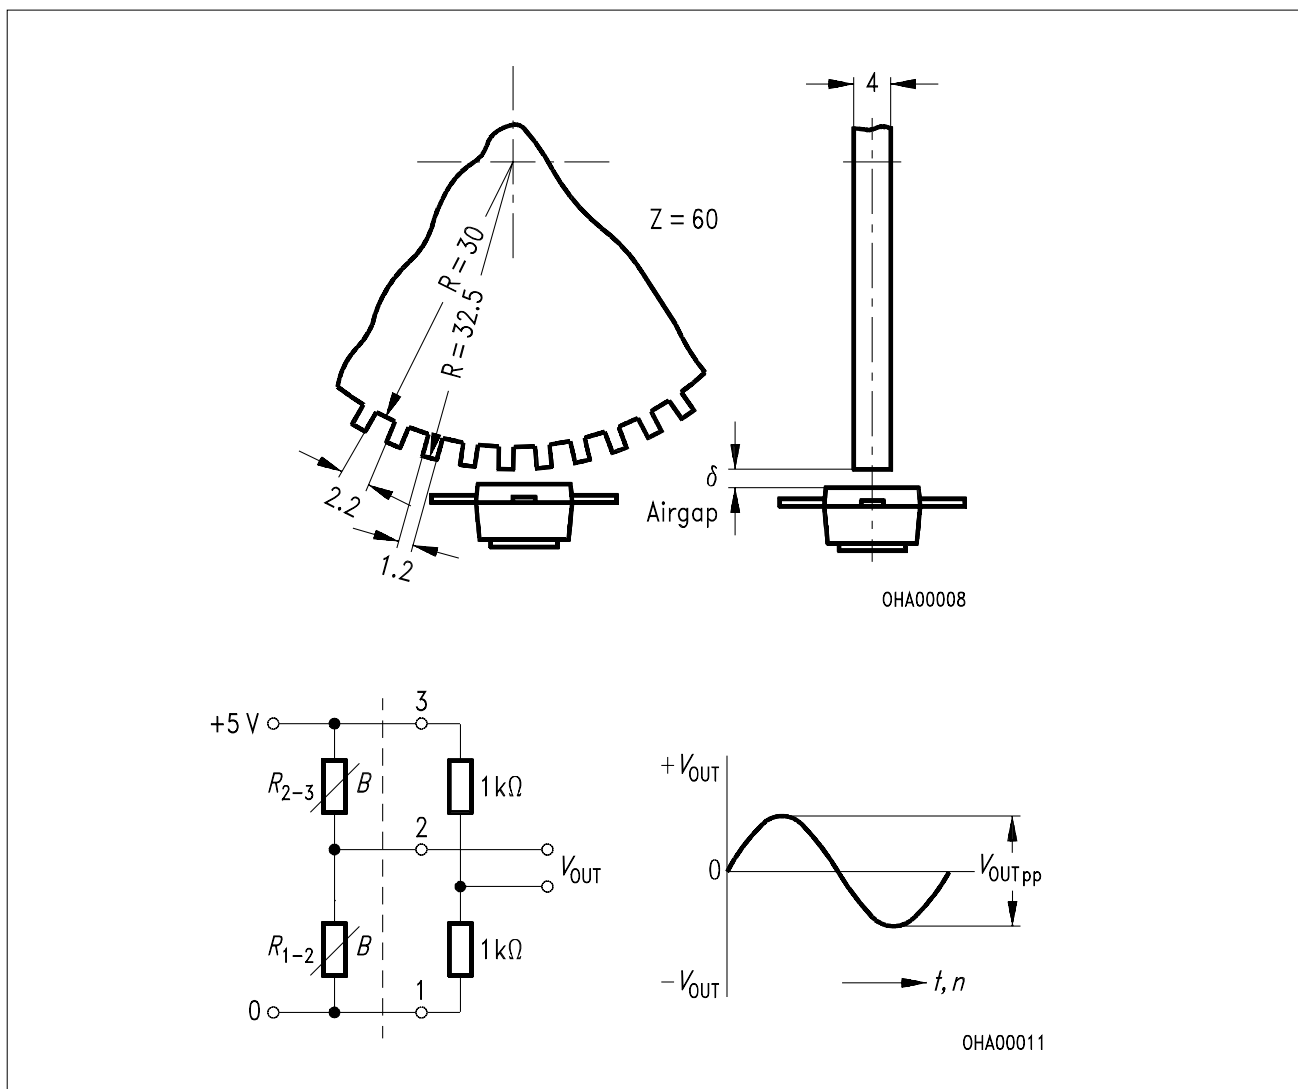

Figure 1
5) Corresponding to measuring circuit in **Fig. 2** and arrangement as shown in **Fig. 1**
For digital revolution counting, the sensor should be actuated by a magnetically soft iron toothed wheel. The tooth spacing should correspond to about twice the magneto resistor intercenter spacing i.e $2 \times 1.6 \text{ mm}$ (see **Figure 1**).